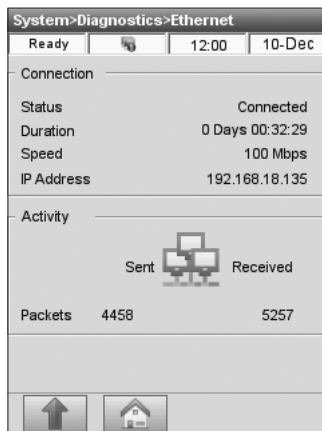

Fig. 8-21 Ethernet Test
- The system will send out data and check if they are received (Fig. 8-21).